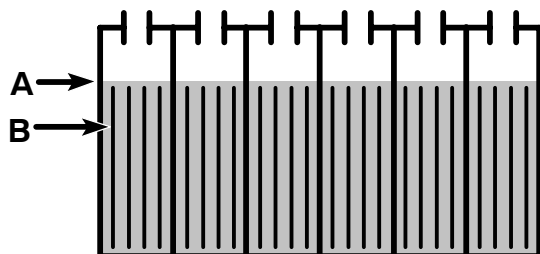

FIG. 19
3. Before charging the batteries, periodically check the electrolyte level in each battery cell (Figure 19).
The electrolyte level (A) should slightly cover the battery plates (B). Add distilled water as needed. **DO NOT OVERFILL**, the fluid may expand and overflow while charging. Replace cell caps before charging (Figure 19).